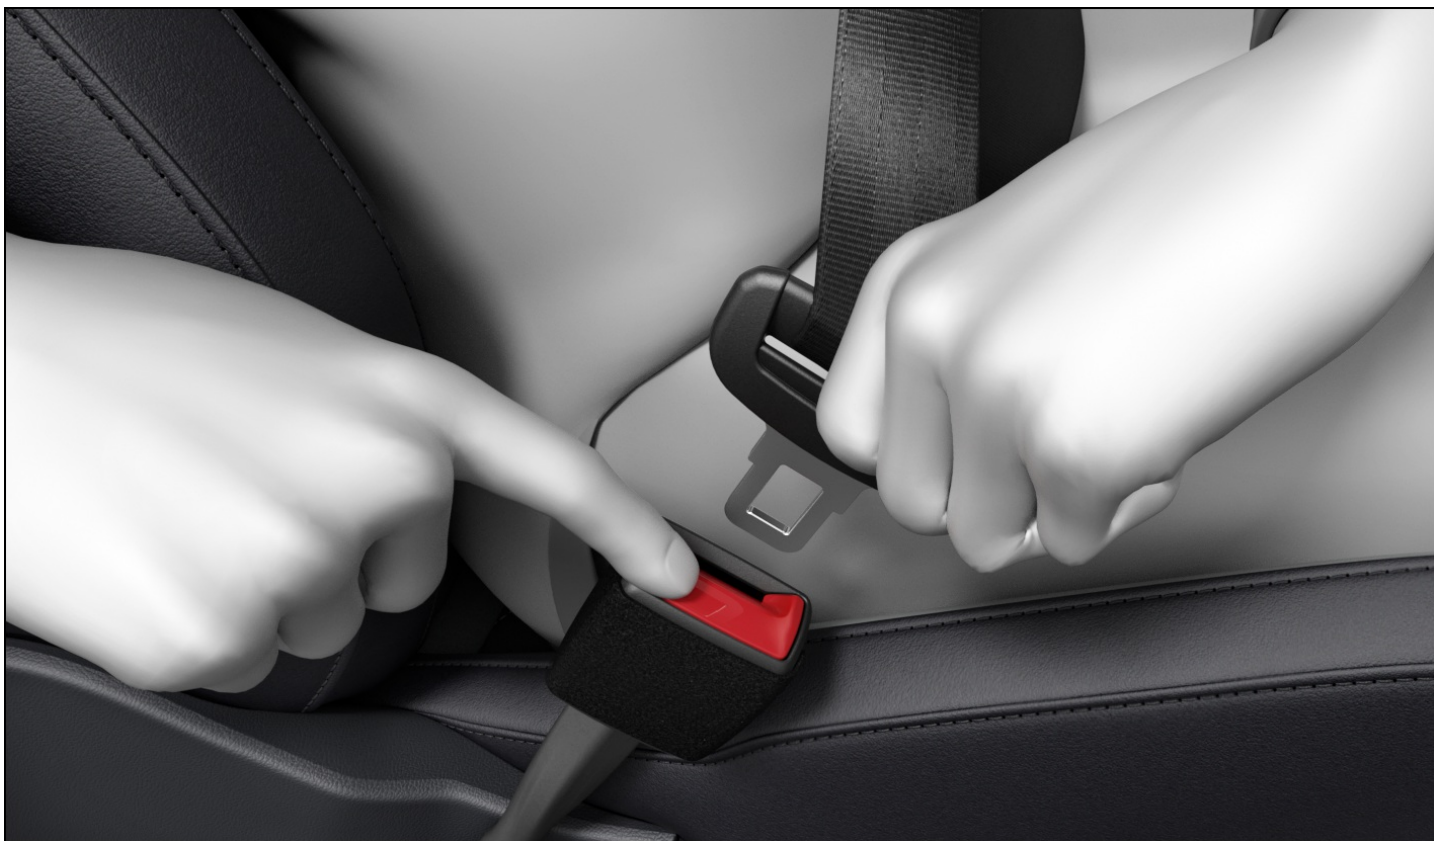

Fig. 29 Releasing the buckle tongue from the safety belt buckle.
- Press the red button in the safety belt buckle *fig. 29*. The buckle tongue will pop out.